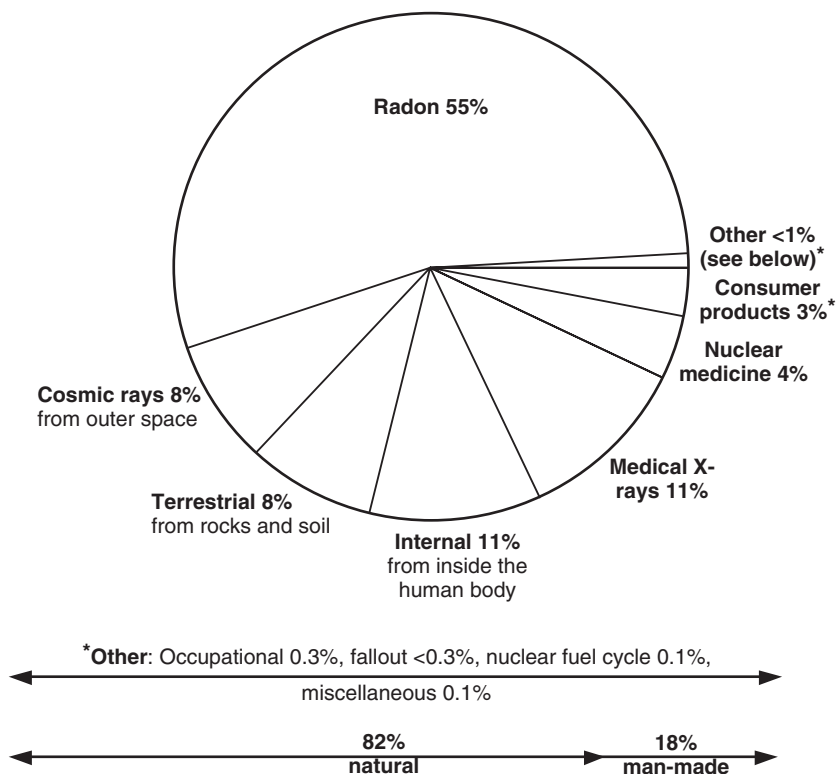

Figure 17.4
**Natural sources** About 82% of the average American's exposure to ionizing radiation is from natural sources (Figure 17.4).
TV sets emit small amounts of ionizing radiation. Other materials that emit higher than background levels of ionizing radiation are building materials coming from the earth: granite and other rocks, and soil. We do not ordinarily find radioactive substances in the items around us except for tiny amounts in some smoke detectors, exit signs, and Coleman lamp mantles. Our exposure to radioactive substances or ionizing radiation is almost all from natural sources, or from medical procedures (Figure 17.4).